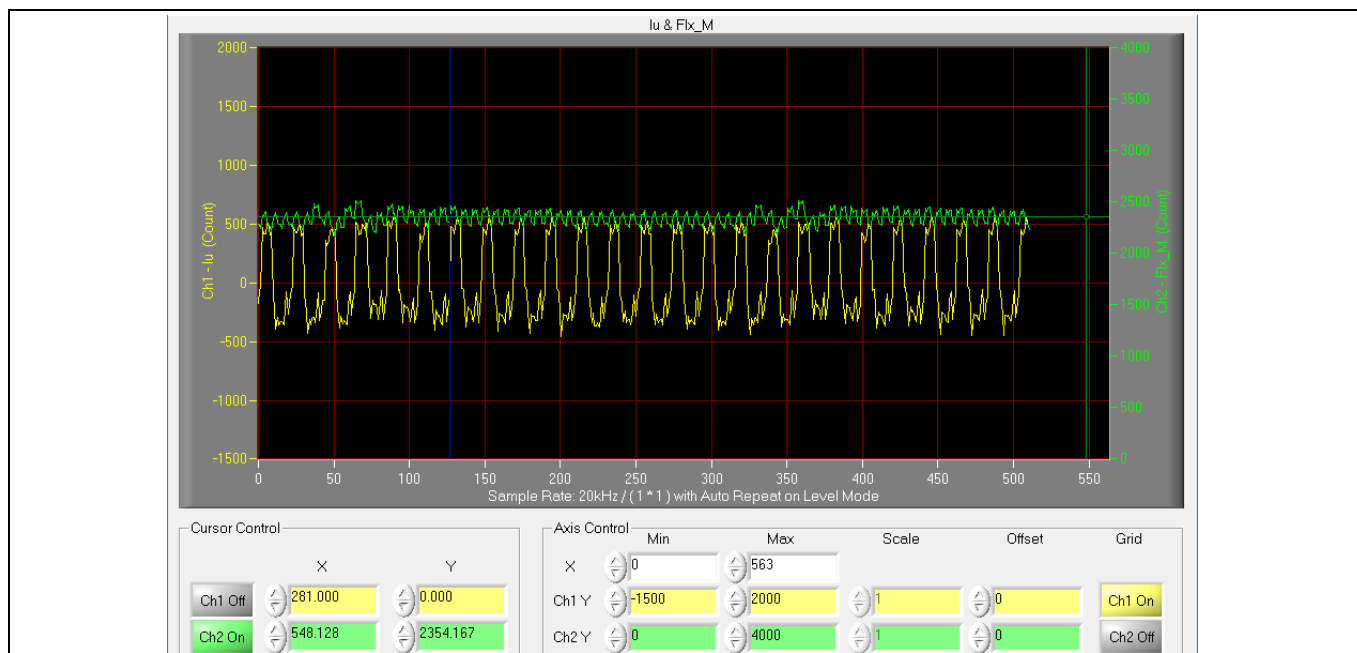

Figure 10 Trace waveform for Iu & Flx-M at 50% speed
13. Set target speed to about 50% of speed, start “Iu & Flx_M” trace with “Auto Repeat On Level,” see Figure 10. Flx_M is better within the range of 2000~2500 (rated value is 2048), and MUST be steady and DC-like.